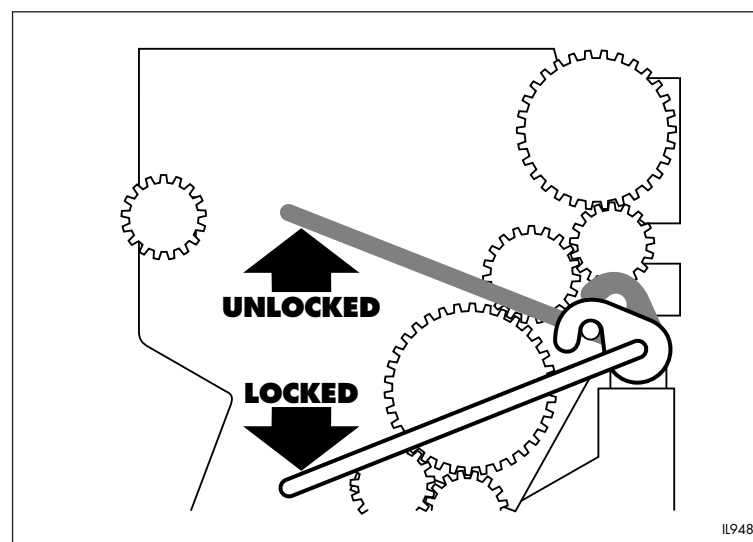

Figure 11.5
See figures 11.5 and 11.6.
- 6 Thumb screw, item 5
- 9 Thumb screw, item 8
- 7 Lift the locking lever, located on the right hand side of the dryer compartment to release the dryer rack. See figure 11.5.
- 11 Push the locking lever down. Ensure the locking catch is engaged correctly on the locking pin. See figure 11.5.